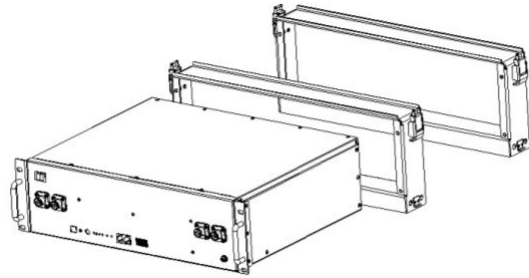

Figure3-4
1. As shown in the figure3-4, place two M3000 brackets side by side with a spacing of 300mm and push the M3000 in.